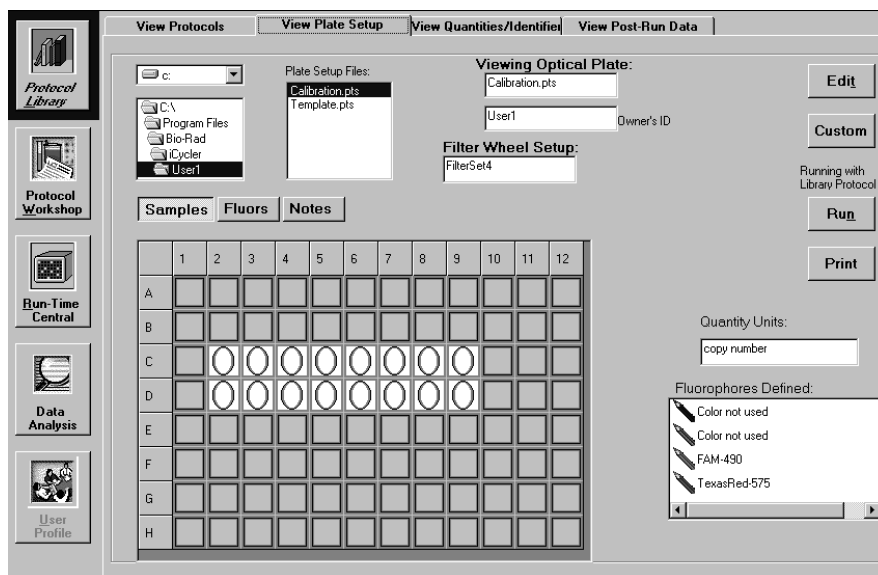

Fig. 4.2. Protocol Library / View Plate Setup Window, Samples View.
- **View Plate Setup:** Provides information about the location of sample wells and the fluorophores that will be analyzed in each (see Figures 4.2, 4.3, 4.4);
Select the View Plate Setup tab near the top of the Protocol Library window to review stored Plate Setup files. You may choose to review these files looking only at the sample and standards assignments, the fluorophores assigned to each well, or by the quantities assigned to the standards defined. The default setting will show the Samples view (see Figure 4.2).
- The Plate Layout, an 8 by 12 grid comprising the lower portion of the View Plate Setup window, identifies the type of samples and their location on the plate. Selecting one of the three active buttons, **Samples**, **Fluors**, and **Notes**, immediately above the Plate Layout will display different information about the samples. The Protocol Library/View Plate Setup window, Samples view is the default window which appears when the View Plate Setup window is opened (Figure 4.2); in this case the **Samples** button is highlighted. Selecting the Fluors or Notes buttons toggles the grid to display the following information:
- **Samples** button: Displays the location of wells in the plate that will be assayed, and identifies those wells by icons specified as standards, unknowns, blanks, controls, pure dyes, or customized (see Figure 4.2).